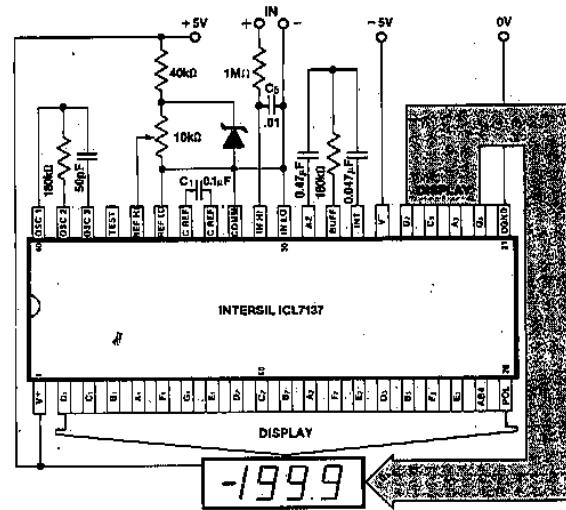

Figure 2. Clock Frequency 48kHz (3 readings/sec)
**Note 5:** 48kHz oscillator, Figure 2, increases current by  $35\mu A$  (typ).